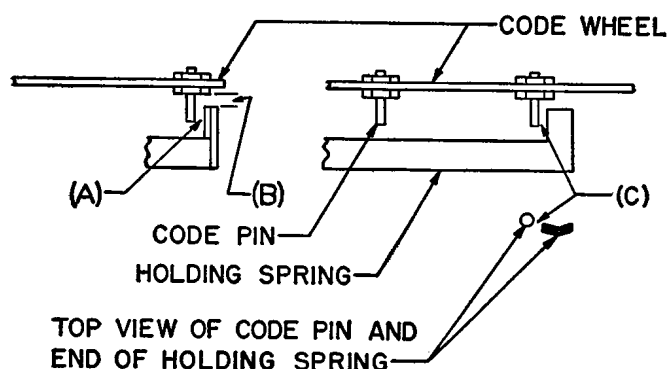

Fig. 9 – Code Wheel and Holding Spring
4.08 CLEARANCE BETWEEN HOLDING SPRING AND CODE PINS, FIG. 9
- a. When the code wheel is revolved by hand, there shall be a minimum clearance of 0.005 inch between the curved end of the holding spring and the inside of the code pins. See Fig. 9 (A).
- b. When the code wheel is revolved by hand, there shall be a minimum clearance of 0.015 inch between the shoulder portion of the code pins and the holding spring. See Fig. 9 (B).
- c. As the code wheel is advanced by the armature, the holding spring in its outward movement shall clear the code pins by a minimum of 0.005 inch. See Fig. 9 (C).